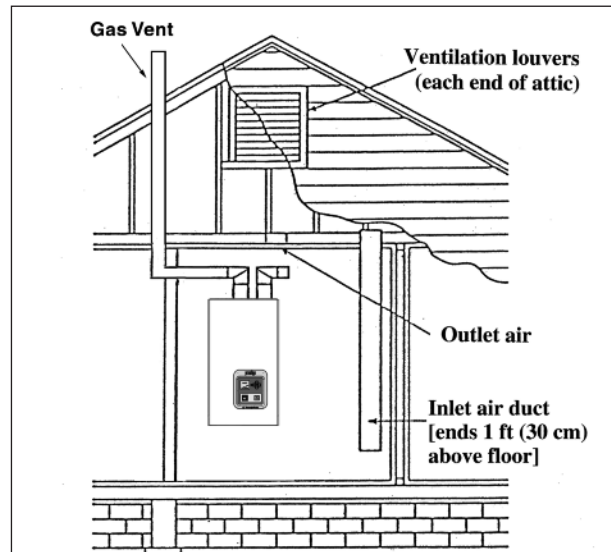

Fig. 3: All Combustion Air from Outdoors Through Ventilated Attic
- Where directly communicating with the outdoors or where communication to the outdoors is through vertical ducts, each opening shall have a minimum free area of 1 sq. in./4000 Btu/hr of total input rating of all equipment in the enclosure. See Fig.3.